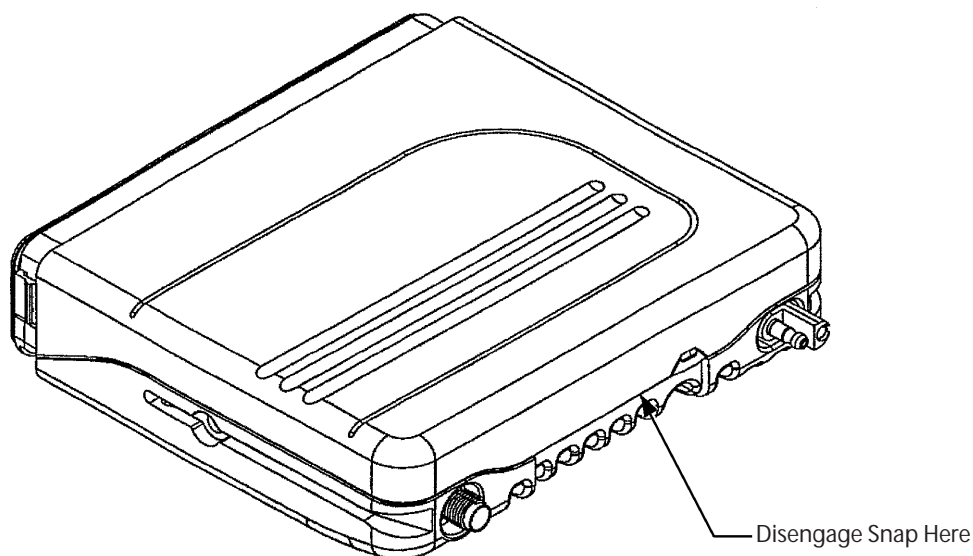

Figure 5-2. Removing the Top Cover - Low Power Models
1. Pry the cover free from the chassis by inserting a small flat-blade screwdriver or like instrument into the area shown in Figure 5-2 and rotating the handle of the screwdriver over the top of the radio. This will disengage the snap between the cover and chassis. Rotate the cover away from the chassis and pull off. (Go to “Remove the Cavity Shield” paragraph, page 3).